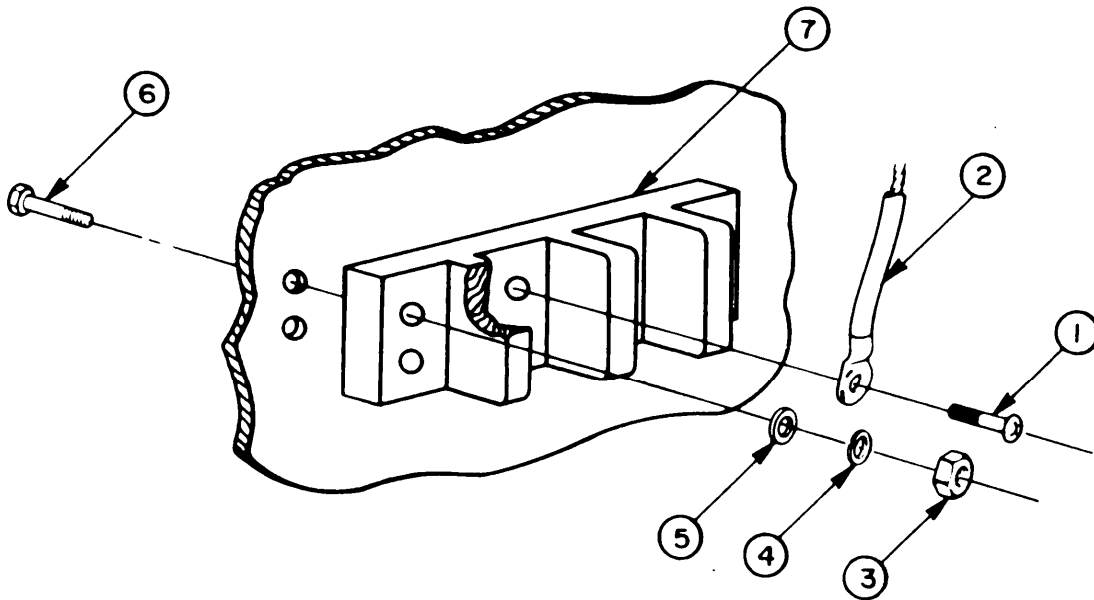

Figure 2-69. Terminal Block (Typical)
b. Removal. (Figure 2-69)
- (1) Replace all damaged screws, nuts, or washers.
- (2) Replace damaged or worn electrical wires.
- (3) Replace damaged or burned terminal block.
e. Installation. (Figure 2-69)
- (1) Hold terminal block (7) in mounting position.
- (2) Insert four screws (6) through mounting panel and terminal block (7).
- (3) Install four flat washers (5), four lockwashers (4), and four nuts (3) on screw (6).
- (4) Install terminal screws (1) with wire lugs (2) attached.